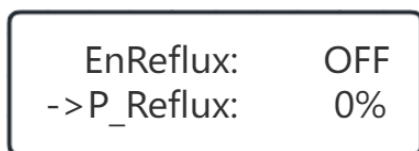
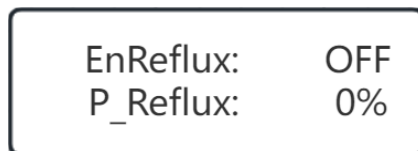

Figure 3.5-5 Menu for Setting Reverse Flow Power
Figure 3.5-6 Setting the Reverse Flow Power
- ⑤ After the above settings are completed, turn on the AC switch and wait for the inverter to start. If the power of the photovoltaic array meets the current power consumption, the inverter will maintain a certain output to offset the power of the grid without reverse flow.
- ⑥ If the above steps are completed and tested, and the reverse power needs to be adjusted, you need to enter the setting submenu again, press the [\wedge][V] keys, move the setting cursor to **【P_Reflux】**, as shown in Figure 3.5-5, and press and hold the two keys, the reverse power starts to flash and the setting cursor disappears, as shown in Figure 3.5-6. At this time, you can press the [\wedge][V] keys to set the required reverse power percentage. After the setting is completed, press and hold the two keys to exit the reverse power setting, and the inverter automatically saves the setting parameters.